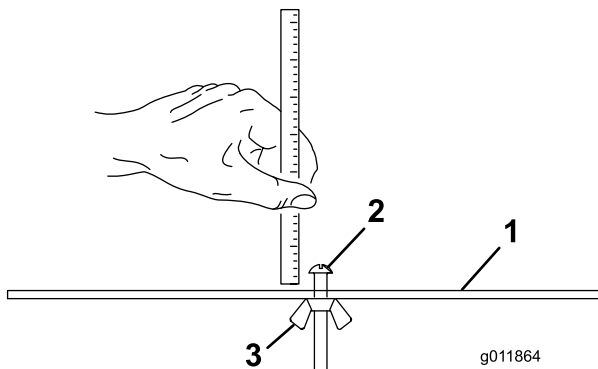

Figure 15
2. Loosen the nut on the gauge bar (Figure 15) and set the adjusting bolt to the desired height of cut.